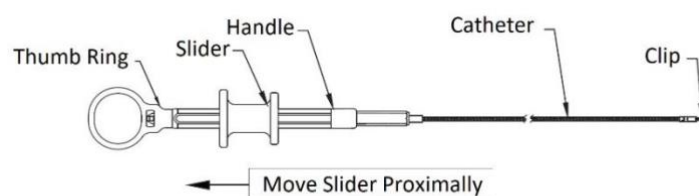

Figure 4
6. If the clip has not been deployed, move the slider proximally to close the jaws, as shown in Figure 4, and endoscopically observe that the clip is closed. Then, withdraw the device slowly from the endoscope by using a slight pull force.
9. Close the clip slowly by moving the slider towards the thumb ring until tactile resistance is felt in the handle. Endoscopically observe to confirm that the tissue is closed by the clip, as shown in **Figure 4**.